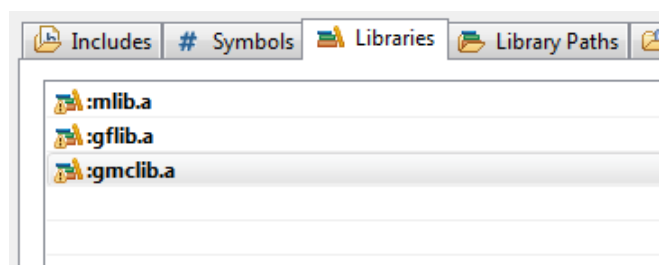

Figure 1-9. Libraries
11. After adding the library paths, add the library files. Click the Libraries tab. See Figure 1-9.
18. Click OK, and you will see the libraries added in the list. See Figure 1-9.